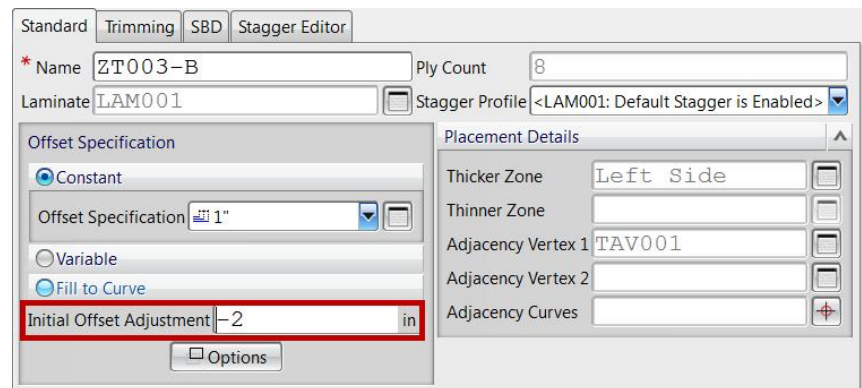

Figure 10–26
3. Enter **[-2]** in (-50.8 mm) for Initial Offset Adjustment as shown in Figure 10–26.